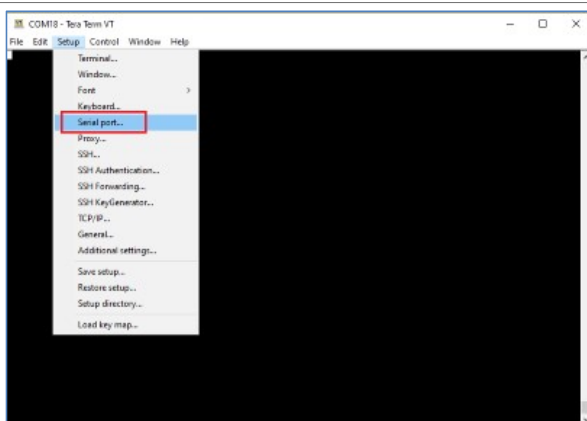

Figure 26. Setting the serial port
3. Stop running the code on the board. Go to **Setup >Serial Port**. See Figure 26.